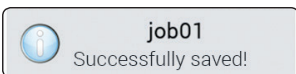

Fig. 274
- 1 Press **F2** to save current job: the name edit screen is displayed (Fig. 274). Type the name.